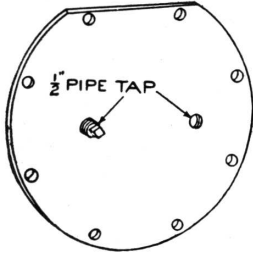
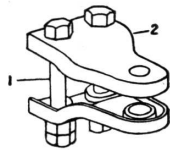

Fig. 2.
Fig. 5.
The pressure-head 5, as shown, is arranged for attachment of the American Automatic Slack Adjuster, and is also generally provided with a detachable lever bracket, Fig. 5, so that the slack adjuster may be used or not, as desired. Or it may be added afterwards without necessitating a new cylinder head or any change other than removing the detachable bracket and putting the slack adjuster in its place. When desired we supply a plain pressure head as shown in Fig 2, on the next page.
- Fig. 2, Type O, Plain Head,